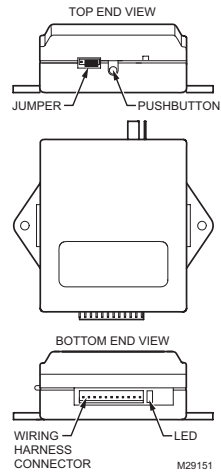

Fig. 4. Receiver components.
Refer to Fig. 4 and position the jumper to the desired delay option:
- At the receiver and press the black pushbutton three times for Zone 3 (see Fig. 4 on page 4). The red LED on the opposite side of the receiver will flash three times. See Fig. 4 on page 4 for location of the pushbutton and LED.
- Press and hold the black pushbutton (see Fig. 4 on page 4) on the receiver for six (6) seconds.